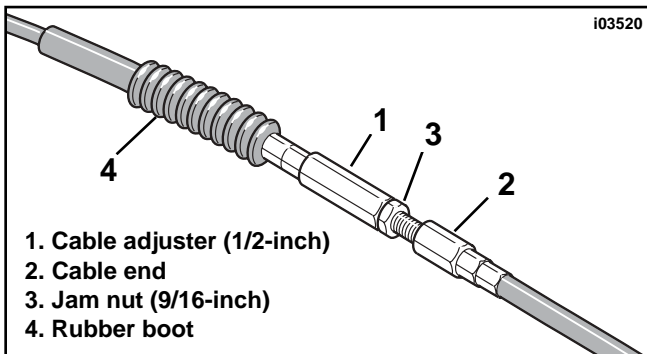
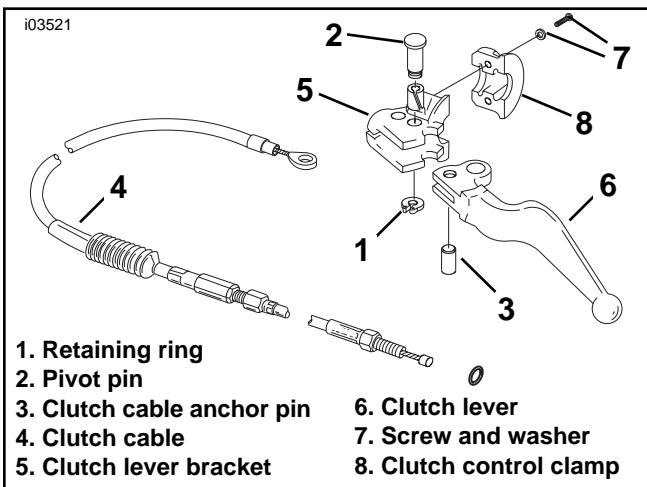
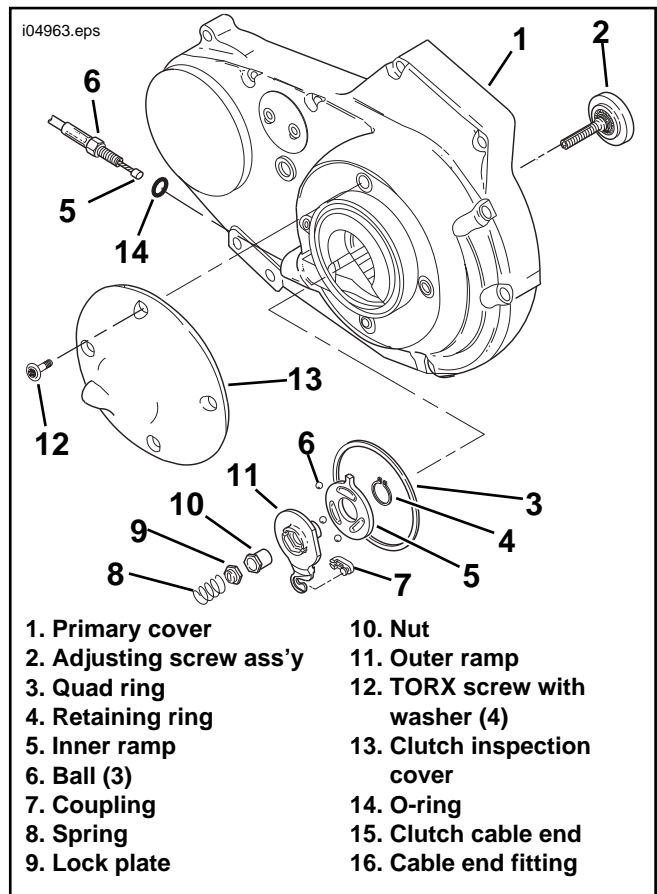

Figure 6. Clutch Cable Adjuster
Figure 7. Clutch Cable Components
Figure 8. Clutch Release Mechanism
14. Loosen the clutch adjuster to obtain slack in the clutch cable (2) by performing the following:
- a. See Figure 6. Locate the cable adjuster (1) and slide off the rubber boot (4).
- b. While holding the cable adjuster with a 1/2-inch wrench, loosen the jam nut (3) using a 9/16-inch wrench.
15. See Figure 7. Remove the retaining ring (1), pivot pin (2) and clutch cable anchor pin (3) from the hand lever.
18. See Figure 8. Using a T-27 TORX driver, remove four TORX screws with washers (12) to remove the clutch inspection cover (13). Exercise caution to avoid damaging or dislodging the quad ring (3) in the primary cover (1).
19. Slide the spring (8) with attached hex lock plate (9) from the flats of the adjusting screw (2).
20. Turn the adjusting screw clockwise to release the ramp and coupling mechanism. As the adjusting screw is turned, the ramp assembly moves forward. Unscrew the nut (10) from the end of the adjusting screw.
21. Remove the hook of the outer ramp (11) from the bottom at the rear of the cable end coupling (7). Remove the cable end (15) from the slot in the coupling.
22. Turn the cable end fitting (16) counterclockwise to remove the clutch cable lower section from the primary cover (1). Remove the "O"-ring (14) from the cable end fitting.
50. See Figure 8. Obtain the braided clutch cable and "O"-ring from the clutch cable kit. Apply a light coat of oil on the "O"-ring (14) and install the "O"-ring onto the threaded portion of the clutch cable end (16). Turn the fitting clockwise to install into the primary cover (1). Tighten the fitting to 3-5 ft-lbs (4-7 Nm).
51. Fit the coupling (7) over the cable end with the rounded side inboard and the ramp connector button outboard. With the retaining ring side of the ramp assembly facing inward, place the hook of the ramp around the coupling button and rotate the assembly counterclockwise until the tang on the inner ramp (5) fits in the slot of the primary cover (1).
52. Thread the nut (10) onto the adjusting screw (2) until the slot of the screw is accessible with a screwdriver. Fit the nut hex into the recess of the outer ramp (11), and turn the adjusting screw counterclockwise.
54. See Figure 7. Connect the end of the clutch cable upper section to the clutch lever (6) using the clutch cable anchor pin (3) from the clutch cable kit.
55. Position the lever within the clutch lever bracket (5).